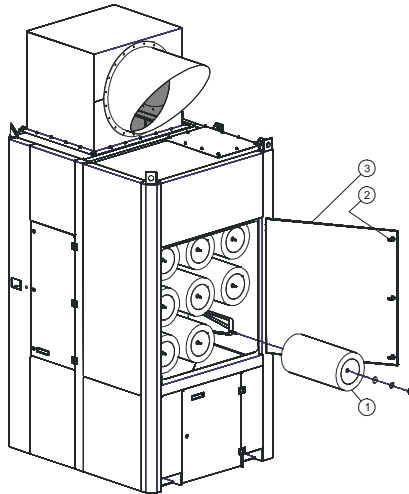

FIG. 20 FILTERING CARTRIDGES REPLACEMENT
Vessel taking away (in the separating device and in pre-separator) see Fig. 20 (1,2):
Vessel returning (to the separating device and in pre-separator) see Fig. 20 (3,4):
- a) Release the inspection door screws (Pos. 2, Fig. 20,21) and open the inspection door (Pos. 3, Fig. 20,21) to space with filtering cartridges of the separator.